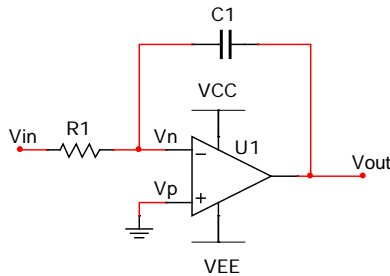
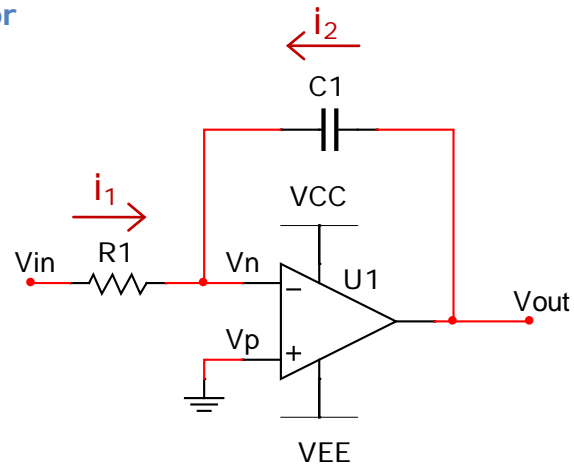

Figure 2. Simple integrator.
Figure 13. Simple integrator.
1. Analyze the integrator circuit in figure 13 (same as figure 2) to derive an equation for  $V_{out}(t)$  as a function of  $V_{in}(t)$ . Show that the output is the integral of the input.